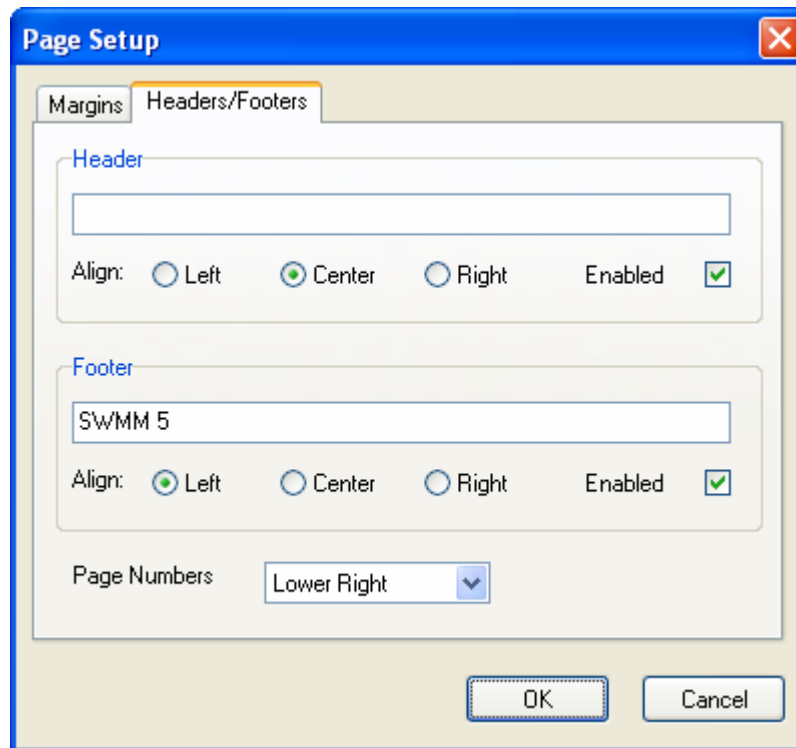

Figure 10-2. The Headers/Footers page of the Page Setup dialog.
3. Use the Headers/Footers page of the dialog box (Figure 10-2) to: